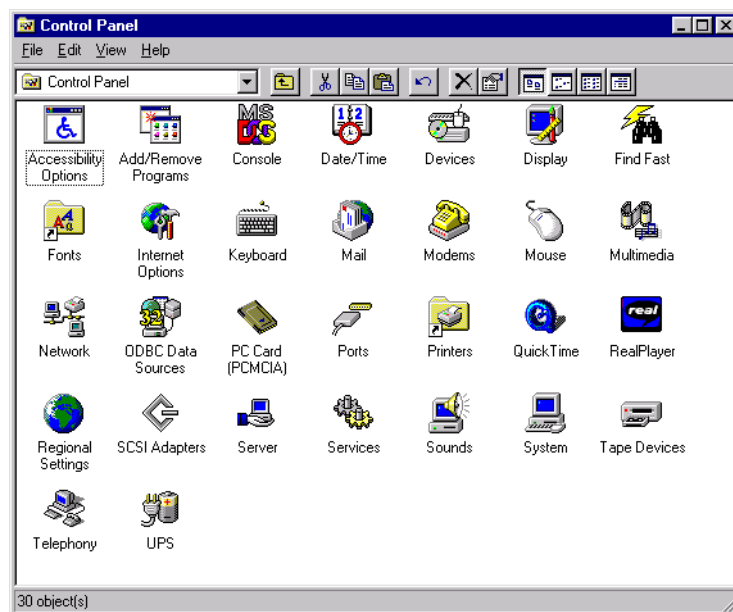

Figure B-24: Control Panel
3. In the Control Panel, double-click the ODBC icon (Figure B-24).